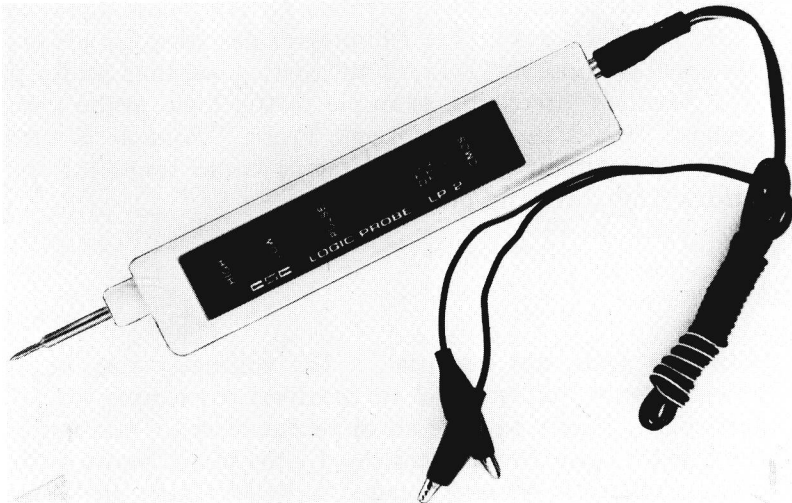

Figure I-5 A logic probe will be handy for monitoring logic levels. Its three LEDs brightly indicate a logic 1, a logic 0, or a pulse condition.
A digital circuit may have only two operating states: *ON* or *OFF*. The output of a logic gate is either high (1) or low (0). Although we could monitor this condition with a voltmeter, another tool is often used—a *logic probe*. Figure I-5 pictures a typical probe. It is powered by +5 V and is then touched to the various points in the circuit to be tested. Three light-emitting diodes (LEDs) generally serve as the logic-level indicators. These correspond to the